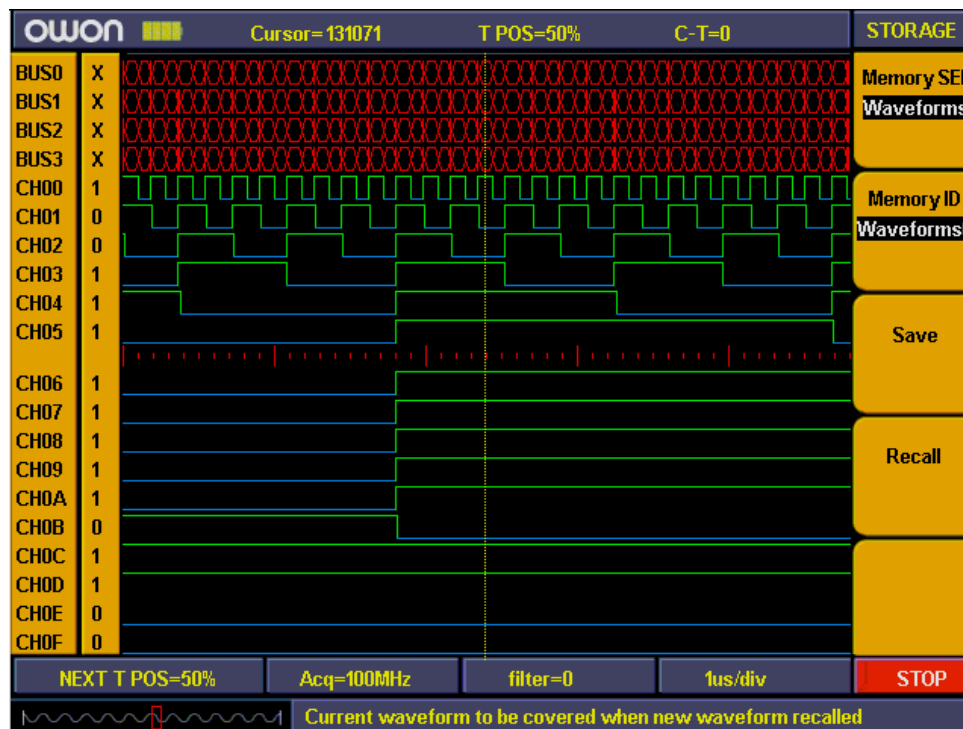

Fig 82: Waveform saving
8. Press “**F4**” to recall the memory waveform or settings (refer to Fig. 82)